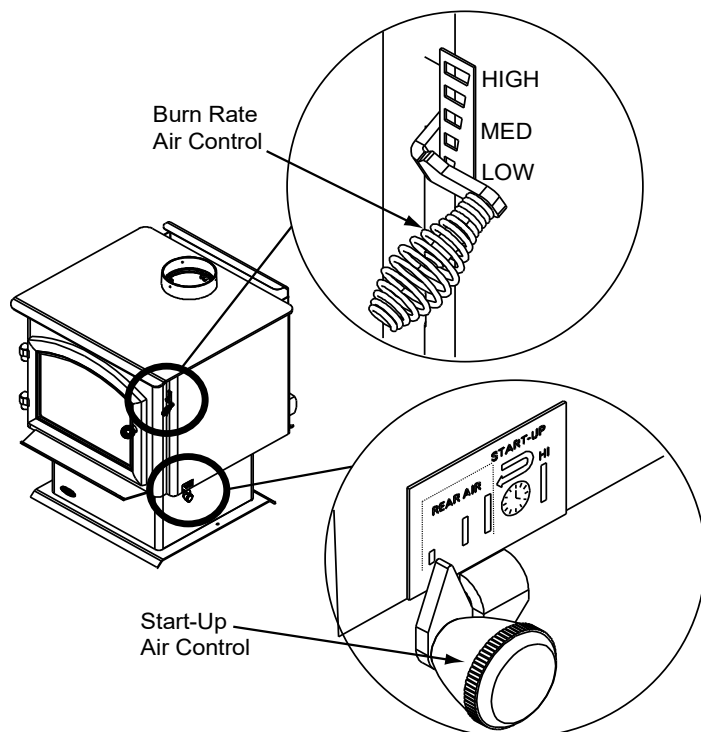
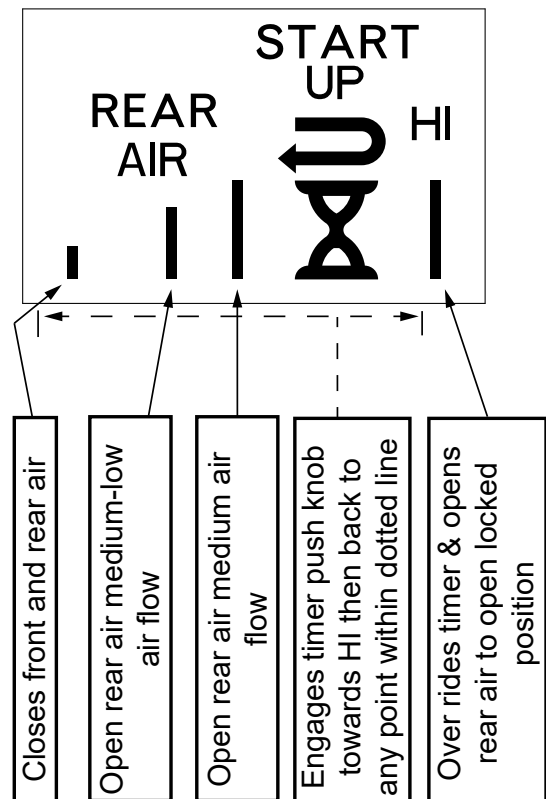

Figure 10.1
Figure 10.2
The next stage of burning, the secondary stage, is the period when the wood gives off flammable gases which burn above the fuel with bright flames. During this stage of burning it is very important that the flames be maintained and not allowed to go out. This will ensure the cleanest possible fire. If the flames tend to go out, it is set too low for your burning conditions. The air control located at the upper right hand corner is used to adjust for burn rates. This is called the Burn Rate Air Control (Figure 10.1).
This air supply enters at the upper front of the firebox, near the top of the glass door. This preheated air supplies the necessary fresh oxygen to mix with the unburned gases, helping to create second, third and fourth combustions. This air is regulated by the Burn Rate Air Control. When the control is moved all the way up it is on the High setting and when moved all the way down it is on the Low setting (Figure 10.1).
To engage the Automatic Combustion Control (ACC) timer system push the lever towards the back of the appliance to the "HI" position, then pull forwards towards the front of the appliance until the knob stops. The timer will slowly close in about 25 minutes. Use this feature when reloading fuel or if you want more air supplied to the fire (Figure 10.2).
- Then activate the ACC timer system by pushing the knob all the way back toward the appliance to "HI" then pull forwards towards the front of the appliance until the knob stops (**Figure 10.1 and Figure 10.2 on page 10**).